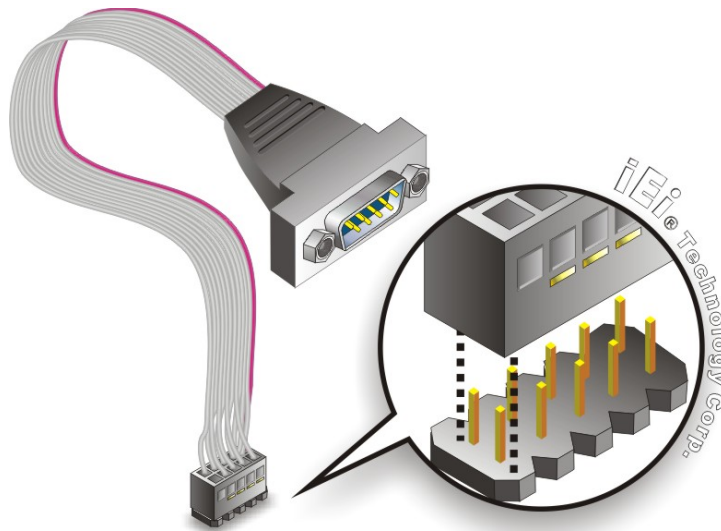

Figure 4-8: Single RS-232 Cable Installation
Step 2: **Insert the cable connector.** Insert the connector into the serial port box header. See **Figure 4-8**. A key on the front of the cable connectors ensures the connector can only be installed in one direction.